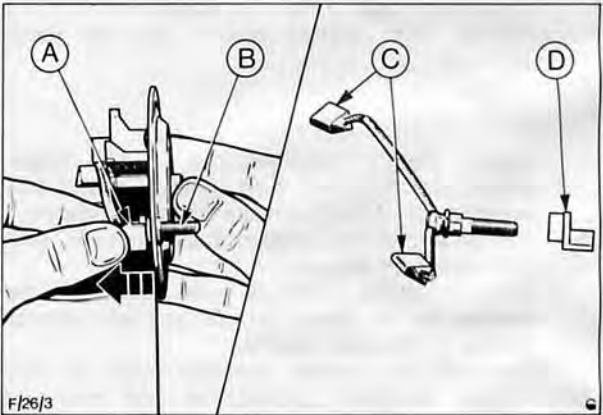

Fig. 21. Removing brushes
3. Remove nut, washer and insulator from main terminal stud, Fig. 21. Push stud and second insulator through commutator end plate, unhook two attached brushes from brush box, and remove stud and brushes complete.